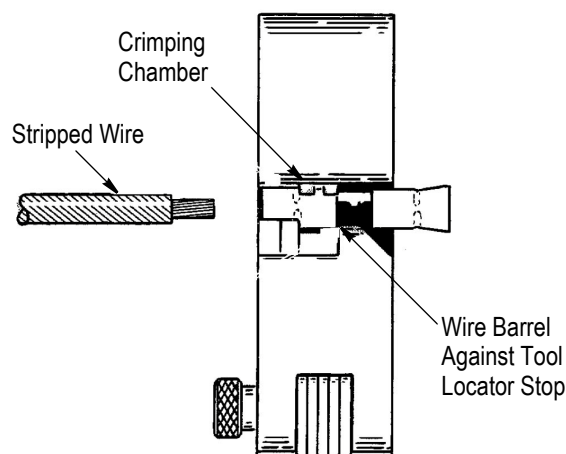

Figure 3
3. Insert the terminal or splice into the crimping chamber as shown in Figure 3.